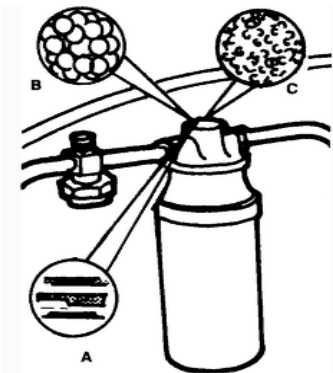

Figure 8: Sight glass problems
Next, cycle the air conditioner on and off to make sure what you are seeing is clear refrigerant. Since the refrigerant is clear, it is possible to mistake a completely discharged system for one that is fully charged. Then turn the system off and watch the sight glass. If there is refrigerant in the system, you'll see bubbles (figure 8) during the
While the system is operating if you observe oils streaks (A), constant bubbles (B) or foam (C) as in Figure 8 that indicates the system is low on refrigerant. Oil in the sight glass, normally appears as a series of streaks, but occasionally it may be a solid stream of oil. In either case, it means that part of the charge has been lost.